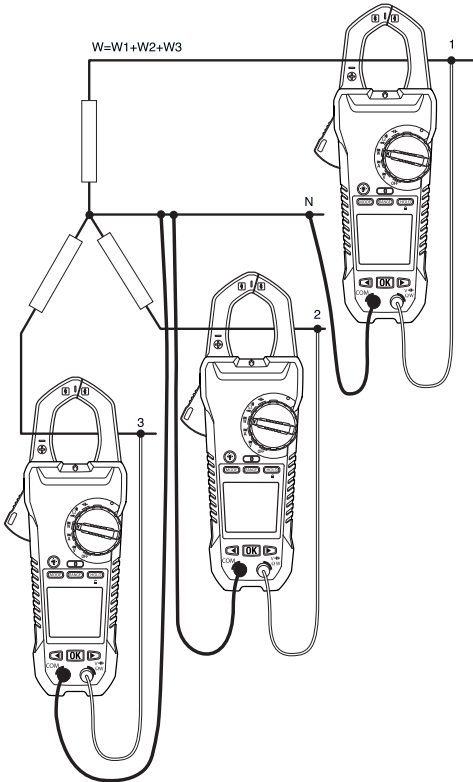

Figure 5.5 Three-phase four-wire measurements
The power of a three-phase four-wire configuration is measured in three steps, accordance with Figure 5.5. The total power is the sum of the three measurements: $W = W1 + W2 + W3$
3. Take three measurements of the active power, in accordance with Figure 5.5.